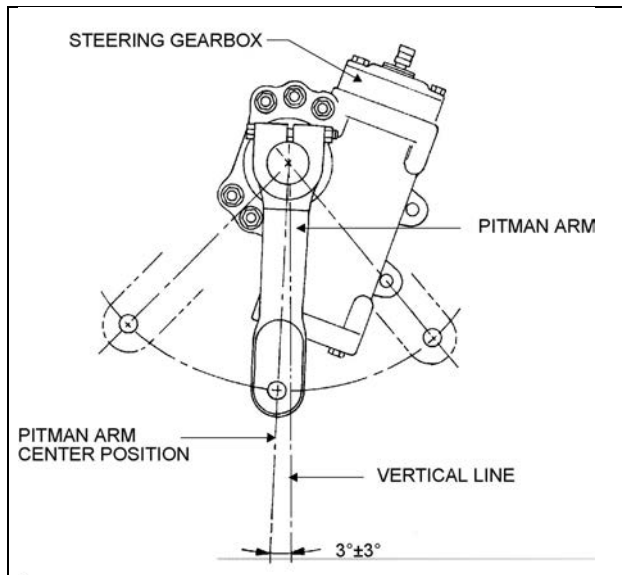

FIGURE 4: PITMAN ARM ADJUSTMENT
3. The pitman arm should be adjusted to an angle of  $3^\circ \pm 3^\circ$  in relation with the vertical axis (towards rear of vehicle), refer to Fig. 4 for details. If not, unscrew and remove bolt, nut and washer. Remove the pitman arm according to the procedure outlined under previous heading "11.1 REMOVAL". Adjust to the proper angle.